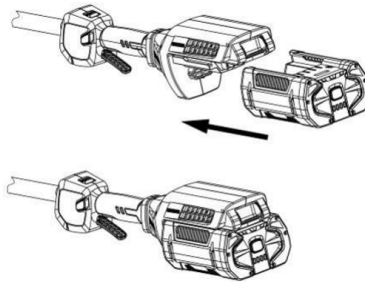

Fig. 7
1. Insert the battery pack into battery holder. (Fig.7)
2. Make sure the latch on bottom of battery pack snaps in place and that battery pack is fully seated. (Fig.7)